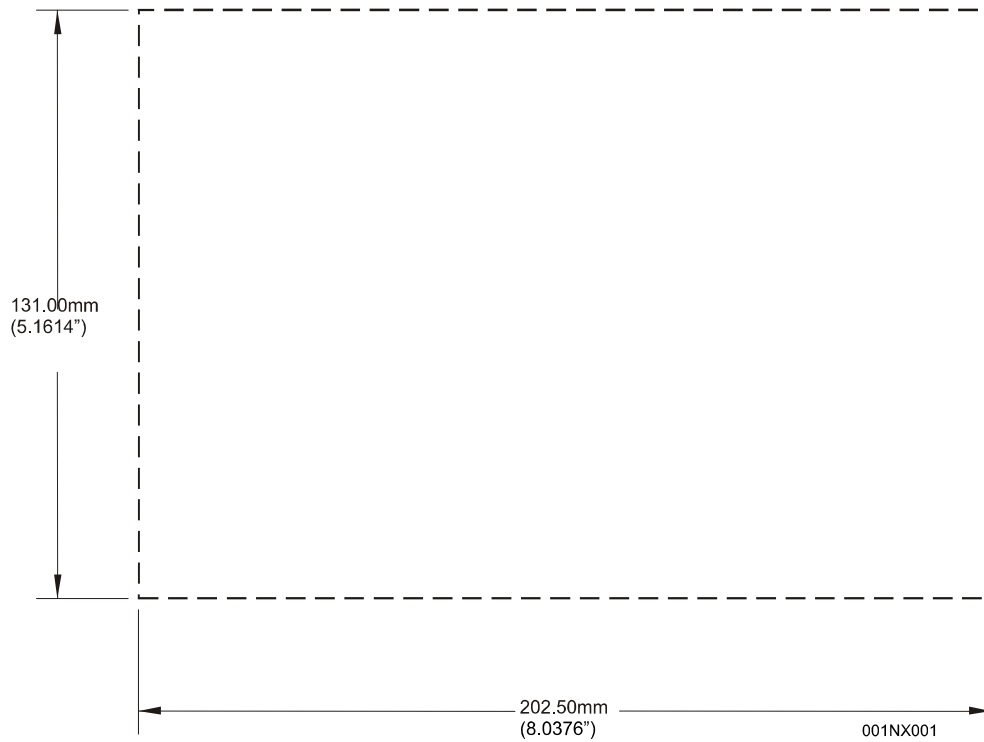

Figure 2 – Panel Cut-Out for the NX
1. Per the specifications of **Figure 1** and **Figure 2** – carefully prepare the panel cutout. Make sure the corners of the cutout are square and free from burrs.